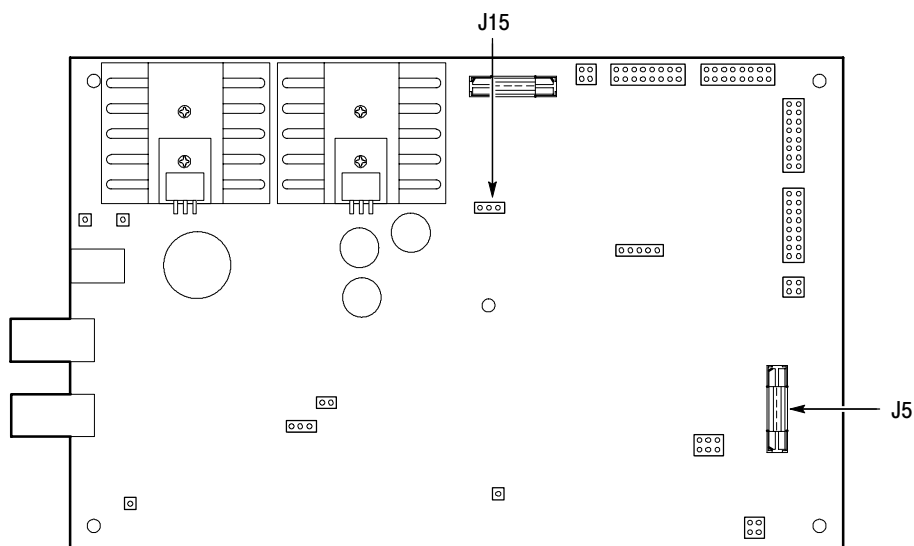

Figure 33: Jumper and connector locations on the test fixture
2. Connect the probe tip to J5 on the the test fixture as shown in Figure 33.